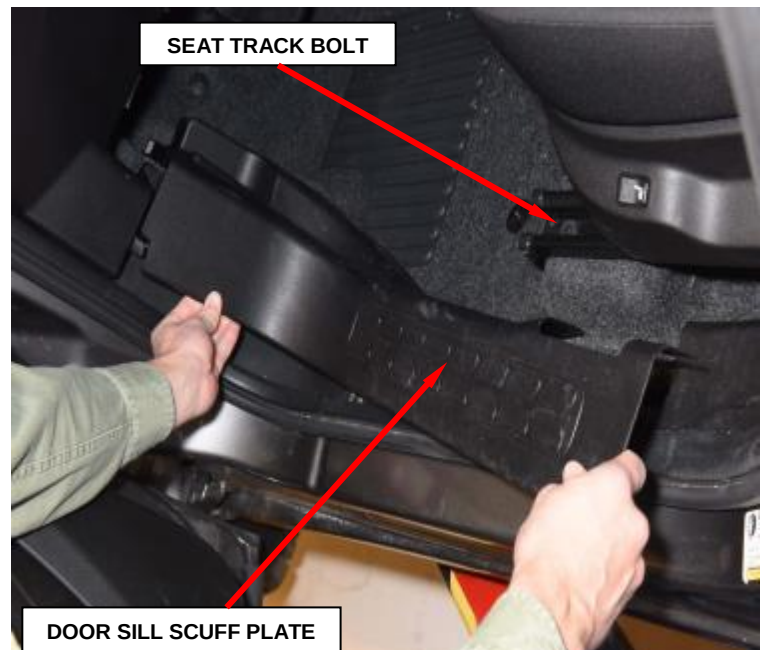

Figure 3 – Door Sill Scuff Plate
6. Remove and save the door sill scuff plate (Figure 3).
7. Remove and save the outboard front seat track bolt (Figure 3).
11. Install the seat track bolt and tighten to 29 ft. lbs. (39 N·m) (Figure 3).
12. Install the door sill scuff plate (Figure 3).